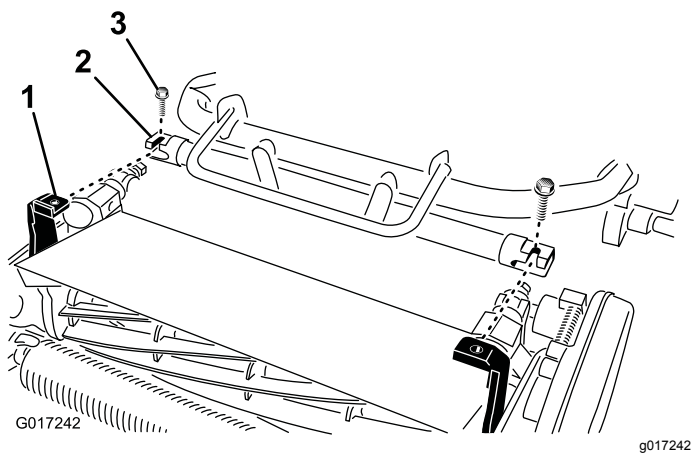

Figure 8
4. Maneuver the traction unit frame (Figure 8) forward until it engages the cutting unit pivot arms.
5. Secure the traction unit frame to the cutting unit pivot arms with 2 bolts (3/8 x 3/4 inch) (Figure 8).